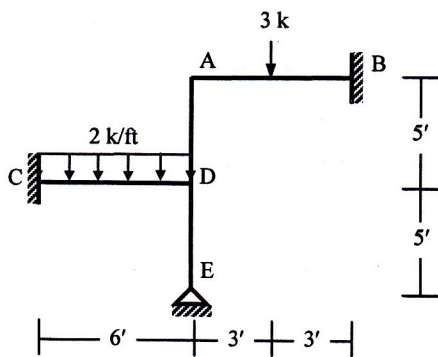

Fig. 3
3. For the frame shown below in *Fig. 3*, assemble the global stiffness matrix considering boundary conditions and neglecting axial deformation. Also write down the global load vector [Given: $EI = 40 \times 10^3 \text{ ksf}$, $A = 1 \text{ ft}^2$].